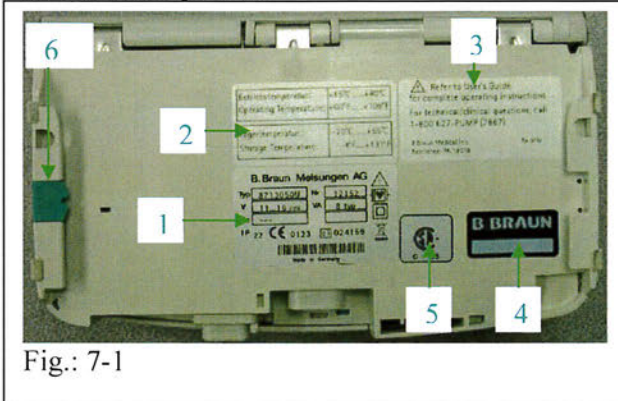

Fig.: 7-1
- 1.1. Document the unit's Catalog and Serial Number on the TSC. (See Figure 7.1).
- 1.2. Labeling, secure and legible: (See Figure 7.1)
- 1.3.8. Pump lock secure (See figure 7.1).